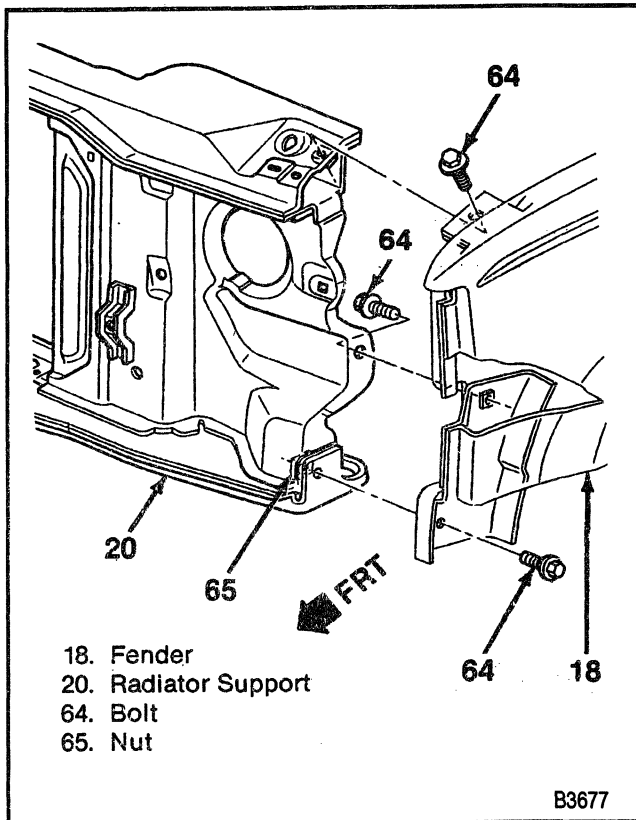

Figure 23—Fender to Radiator Support Attachment
18. Fender to the radiator support bolts (Figure 23).